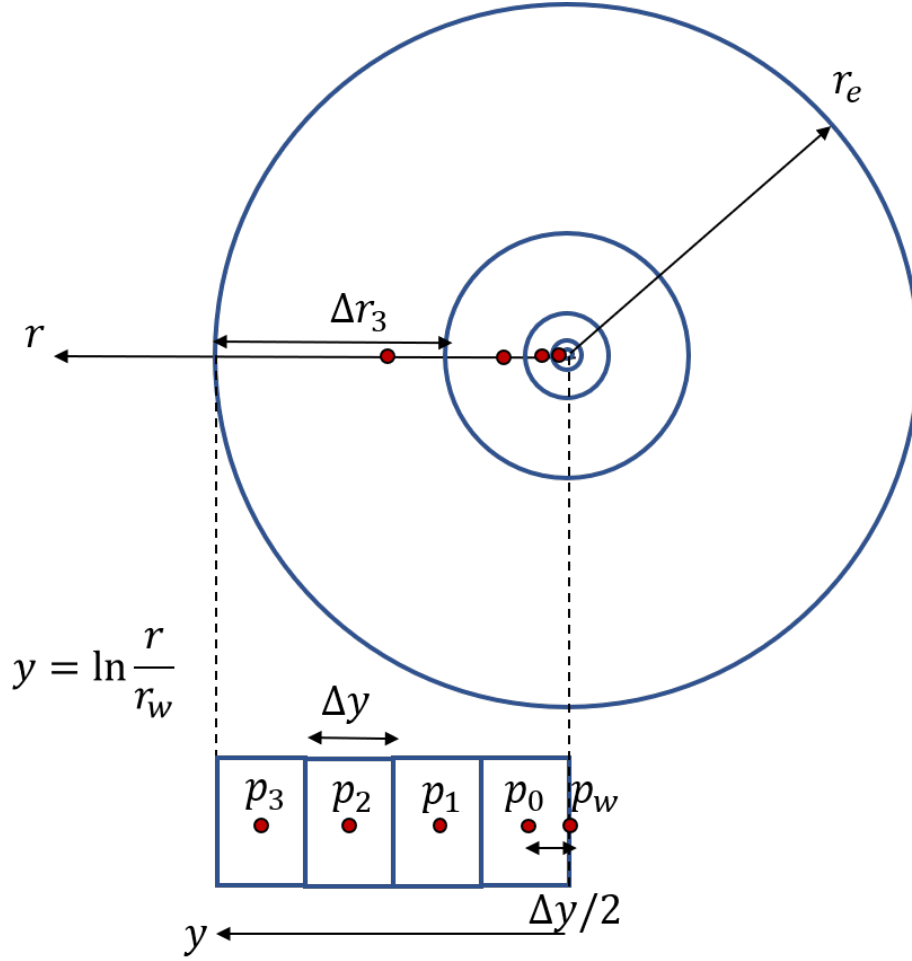

Figure 1: Sketch of the coordinate transformation  $r \rightarrow y$ . Note that the pressure is always evaluated at the center of the  $y$ -blocks.
**Part 4.** We are now going to discretize equation (19). We start by dividing the total flow domain into  $N$  equally sized grid blocks in the  $y$ -coordinates, see figure 1 for an illustration. The numerical pressure solution will be calculated at the *midpoints* (centers) of the  $y$ -blocks; note that this does *not* correspond to the center of the  $r$ -blocks!
- Create another array holding the  $r$ -coordinates of the grid points. Again, this will be a NumPy array of size  $N$  (hint: invert equation (18).)